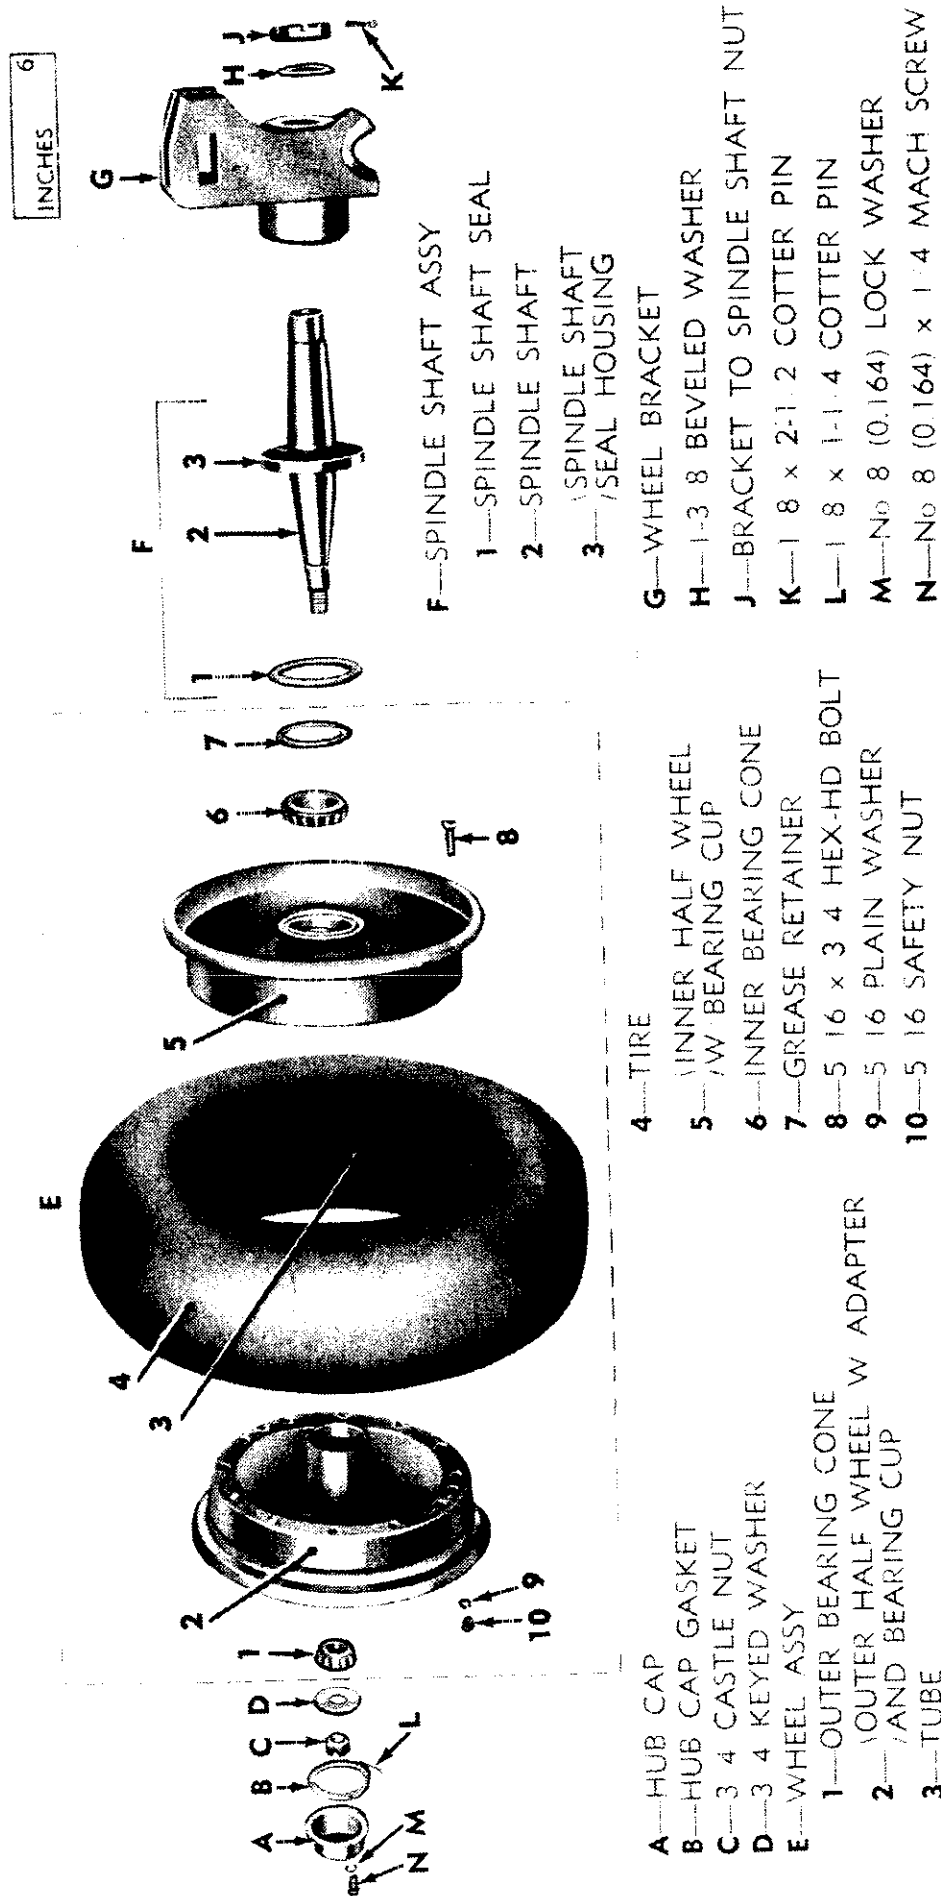

Figure 77. Trailer wheel and wheel bracket group.
The wheels (fig. 77) are of the pressed-steel split type. The disks of each half of the wheel (inner half and outer half) are welded to the inner and outer sections of the hub. The outer and inner halves of the wheel are assembled into one wheel unit by 14 cap screws with lock washers and nuts. The entire wheel assembly is mounted on the spindle shaft and supported on tapered roller bearings. The spindle shaft is tapered to fit into the wheel bracket to which it is secured by a castellated nut and cotter pin. This entire wheel and wheel bracket group can be quickly attached to the body of mount trailer M20 by means of wedges which are locked in place by wedge locking pins.
- (1) *Remove wheel assembly from spindle shaft.*
- (a) Remove three machine screws (fig. 77) and lock washers from hub cap. Remove hub cap and hub cap gasket.
- (2) *Remove spindle shaft from wheel bracket.*
- (3) *Remove tires.*
- (a) Remove wheel assembly from spindle shaft as described in (1) above.
- (f) Remove inner tube from tire (fig. 77).
- (4) *Remove wedges, chains, and lock pins.*
- b. *Assembly (fig. 77).*
- (1) *Install wedges, chains, and lock pins.*
- (2) *Install tire.*
*f. Wheel Assembly.* Inspect rollers of bearing cones for pits, chipping, and wear. While assembled inside the hub, inspect bearing cups and adapter for wear, pits, and scratches. Inspect grease retainer for wear, pits, scratches, or chipping. If cones, cups, adapter, or retainer are worn or damaged, replace entire wheel assembly (fig. 77) and refer old wheel assembly to ordnance personnel for repair.
- (1) When tire is removed from wheel, check for nails, glass, and other injurious particles in rubber. Inspect for wear, cuts in fabric, fabric breaks, or damaged beads. Do not mount tire on wheel unless it is satisfactory for service. Remove any dirt or foreign material from inside of tire. Be particularly careful to remove all oil, gasoline, or grease since these products cause the rubber to deteriorate.
- (2) Check tube for punctures, pinches, cuts, and cracks. Inspect valve stem for proper bend and condition of inside and outside threads. Replace leaking valve core.
- (3) For tire and tube repair, refer to TM 31-200. To repair synthetic tires and tubes, special materials and procedures are required. Do not attempt to repair tires or tubes until their composition has been determined and necessary materials and instructions have been made available.
- (4) Unserviceable tires should be exchanged for serviceable tires through proper channels. In cases where serviceable replacements are not available, emergency repairs will bridge the gap until sound tires can be obtained.